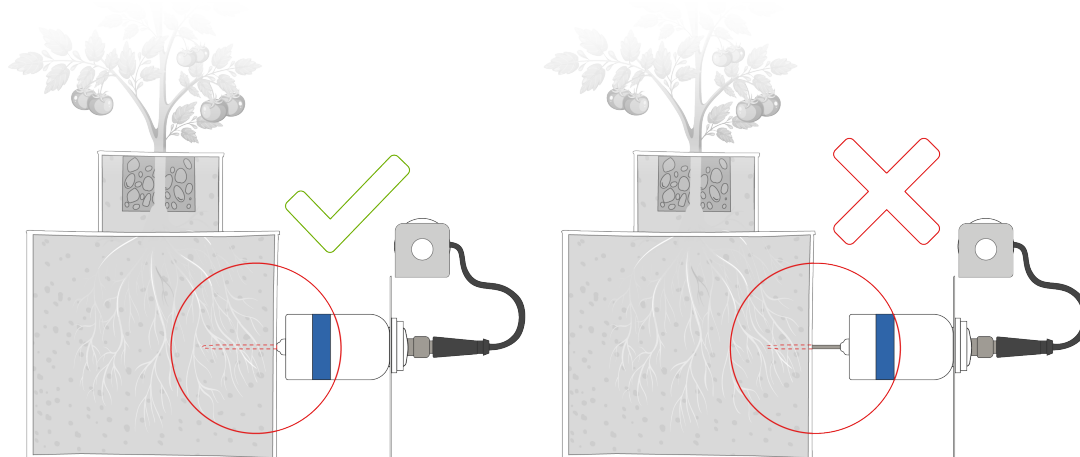

Figure 7: Insert prongs fully into the substrate
- Insert the sensor prongs fully into the substrate so that no part of the prongs remains exposed. Figure 7 illustrates correct and incorrect installation of prongs into slab, however this applies for any of the substrates types used.